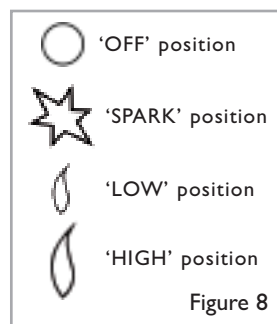

Figure 8
- **Meridiana, Brayfield, Fab Shine and Merrion models** : The control knob is located on the lower right hand side of the outer case. It is marked as shown in figure 8.